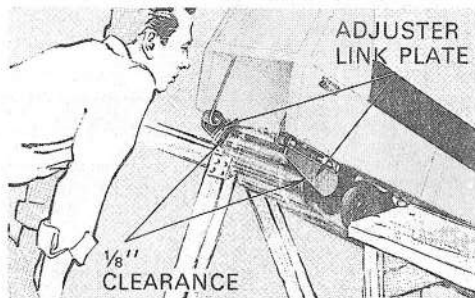

Figure 54
**P5 ALIGNMENT:** The drive belt alignment should be checked every 10 hours of operation, and before starting on a long trip. Lift and block the rear of the Ski-Doo so the track can turn freely. Start the engine and open the throttle till the drive belt comes up to the edge of the drive pulley. See Fig. 54.
Verify the tension and alignment of the track(s) regularly; at least every 10 hours. Before going out for a long cross-country ride, make sure the track(s) is (are) adjusted following specifications. Lift up the rear of the Ski-Doo and check the tension and alignment of the track(s) on the bogie wheels and sprockets. See Fig. 54.